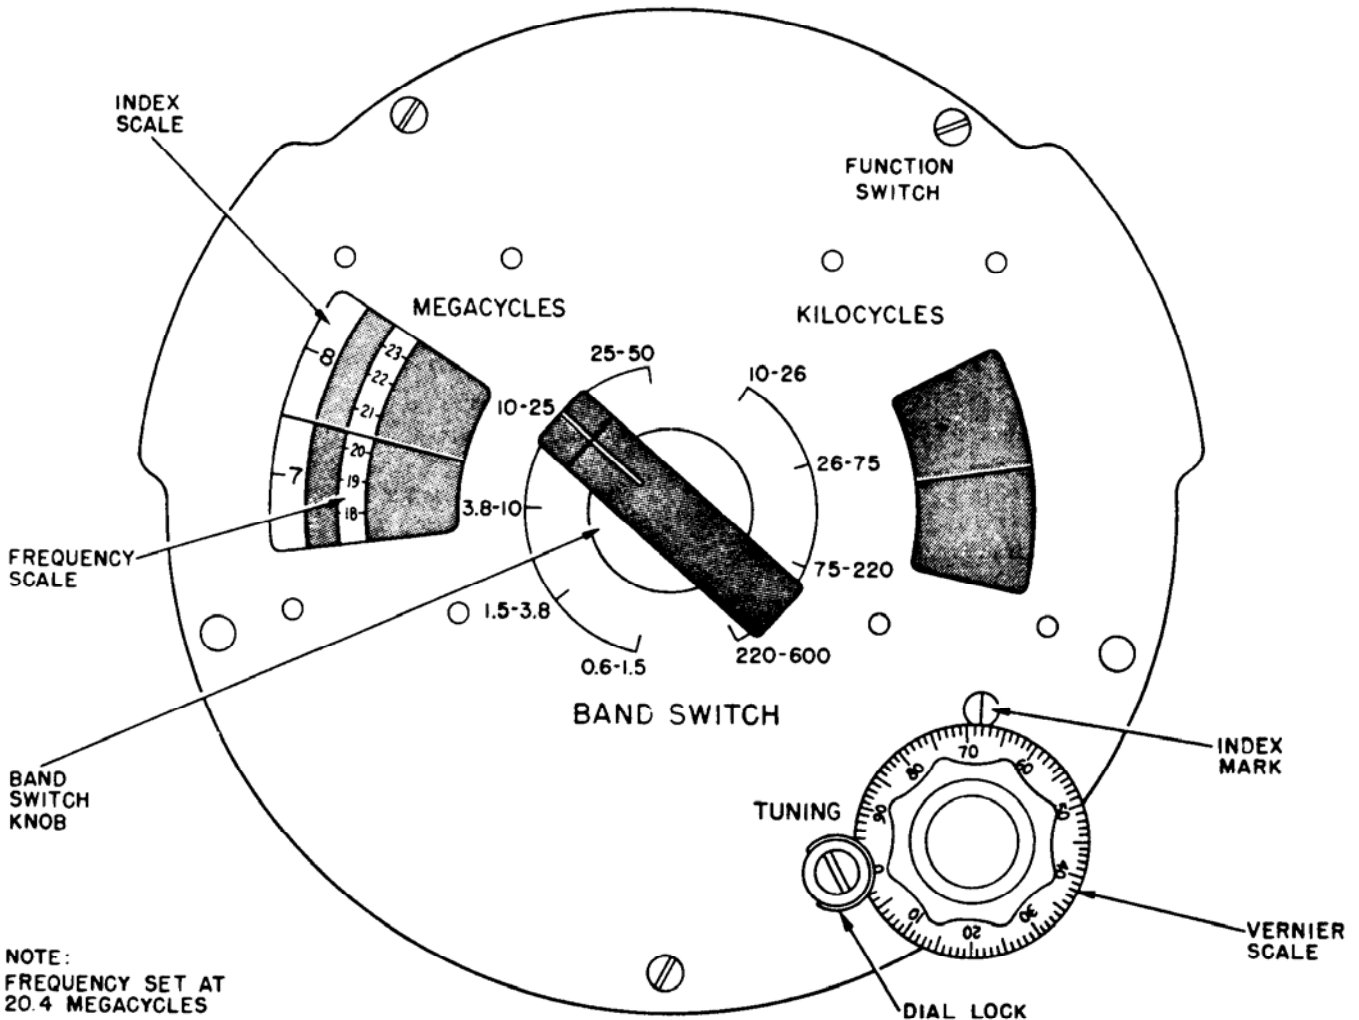

Figure 4-2. Frequency, Index Vernier Scales
g. Add number obtained in step f. to numerical setting for lower check point as obtained in step b.	g. Numerical setting for lower check point was 756; desired frequency is 12 dial divisions above this, or $756 + 12 = 768$. See figure 4-2.